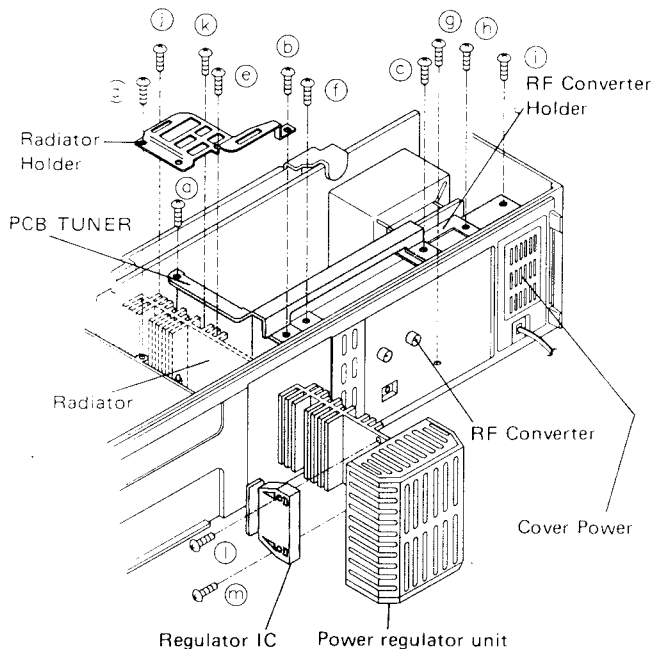

Fig. 2-11
- 1) Remove the three screws (Ⓐ, Ⓑ and Ⓒ) retaining the PCB TUNER as shown in Fig. 2-11.
- 2) Remove the three screws (Ⓕ, Ⓖ and Ⓗ) retaining the RF converter as shown in Fig. 2-11.
- 1) Remove the two screws (Ⓓ and Ⓔ) retaining the Radiator holder as shown in Fig. 2-11.
- 2) Remove the two screws (Ⓚ and Ⓛ) retaining the power regulator unit and sliding toward the rear side as shown in Fig. 2-11.
- 3) Remove the two screws (Ⓜ and Ⓝ) retaining the regulator IC and remove the regulator IC from the Radiator as shown in Fig. 2-11.